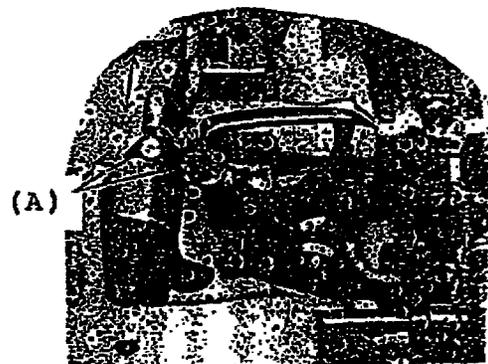

Fig. 3
NOTE : If adjustment front or back is necessary, loosen two screw (A) Fig.3, and move spreader as required. Re-tighten two screws after adjustment.